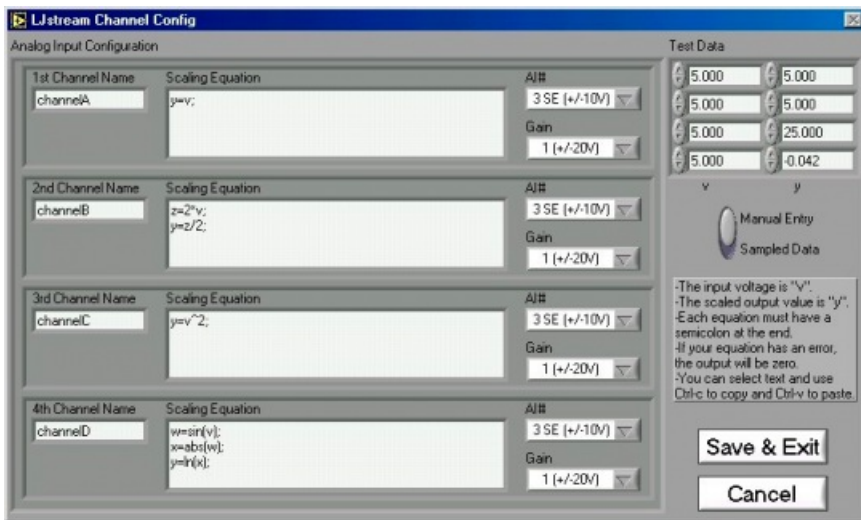

Figure 3-13. LJstream Channel Configuration
- **Configure Channels:** Click this button to bring up the channel configuration window shown in Figure 3-13.
Figure 3-13 shows the LJstream channel configuration window. Here you can select analog inputs and gains and enter scaling equations. Use "Test Data" to see the effect of the scaling equations ("v" column is the measured voltage and the "y" column is the output of the scaling equations). "Manual/Sampled" determines where the "Test Data" in the "v" column originates.